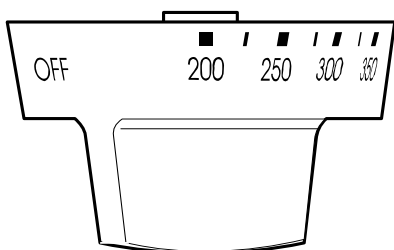

Fig. 1
- The graphics shown for the oven control knob may not look identical to the knob on your range. The illustration is representational (See Fig. 1).